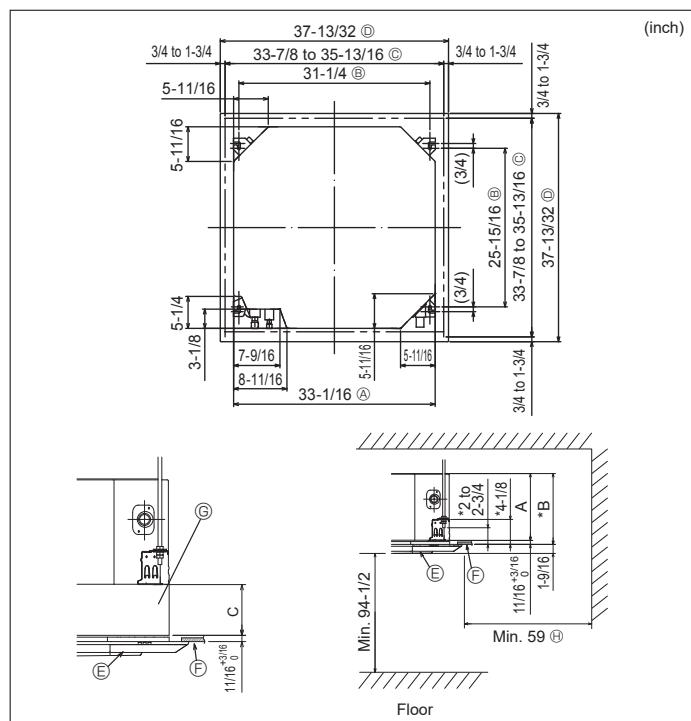

Fig. 3-2
①	Installation template (top of the package)	1
②	Washers (with insulation)	4
③	Washers (without insulation)	4
④	Pipe cover (for refrigerant piping joint)
⑤	Small diameter	1
⑥	Large diameter	1
⑦	Band (large)	8
⑧	Band (small)	1
⑨	Drain socket	1
⑩	Insulation	1
3.2. Ceiling openings and suspension bolt installation locations (Fig. 3-2)
- * The dimensions of ceiling opening can be regulated within the range shown in Fig. 3-2; so center the main unit against the opening of ceiling, ensuring that the respective opposite sides on all sides of the clearance between them becomes identical.